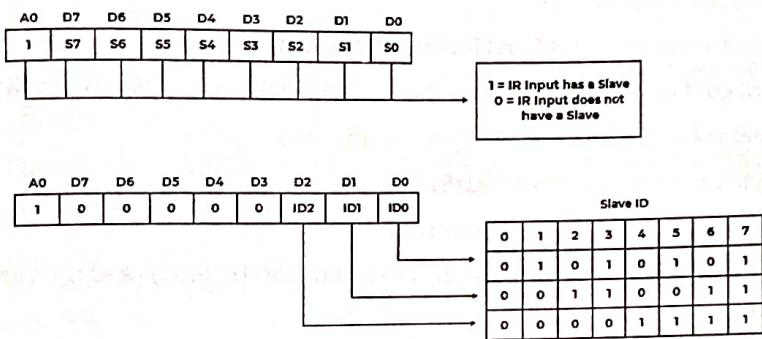

Figure 3.6: ICW3
3. The format of the byte to be loaded as an ICW3 for a master 8259 or a slave is shown in the Figure 3.6.